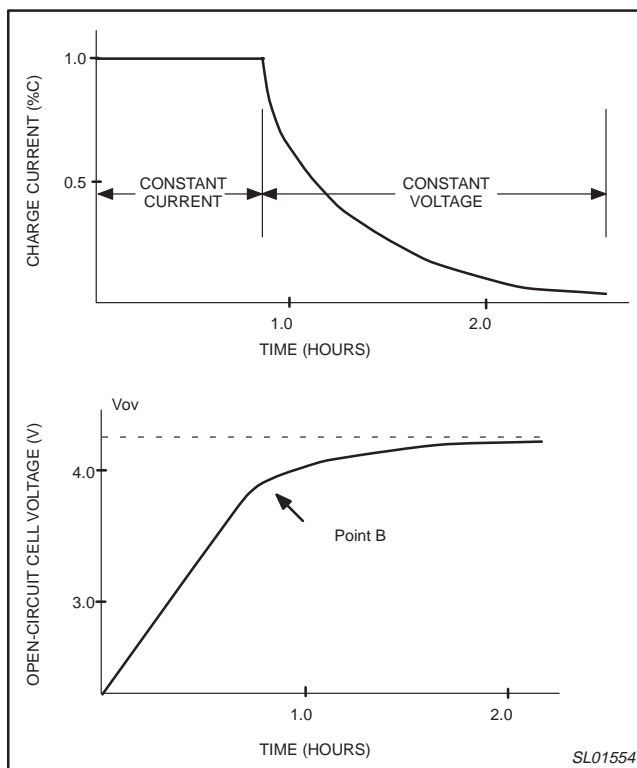

Figure 16. Lithium-ion charging curves.
It is important to allow enough time to charge the cell to take advantage of the higher energy density of the lithium cells. When the charger switches from constant current charge to constant voltage charge (Point B, Figure 16) the cell only contains about 80 percent of its full-rated capacity. When the cell is 100 mV less than its full rated charge voltage, the capacity contained within the cell is about 95 percent. Allowing the cell to slowly complete its charge takes advantage of the larger capacity of the lithium cells. The complete charging curve can be seen in Figure 16.
Figure 16 shows some of the terms and charging periods.
First, calculate the desired voltage of the ADJ pin in question. This is done by executing Equation (2), and using the value of the input offset voltage ( $V_{OS}$ ) if applicable. It becomes a matter of solving a resistor divider problem with a parallel resistor on the lower branch. The equation becomes (referring to the resistor designators in Figure 16 and the values from Table 2):